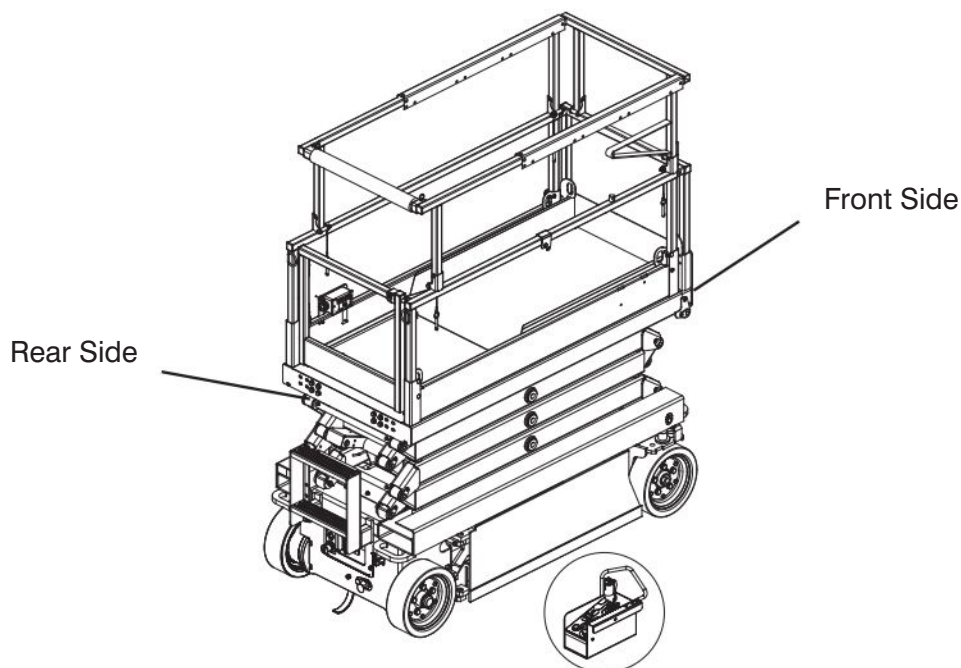

Figure 3-11. Control Box with Long Cable Outside Platform
- Ensure the operator and control box console are properly oriented in the direction the aerial platform is facing (see Figure 3-11).